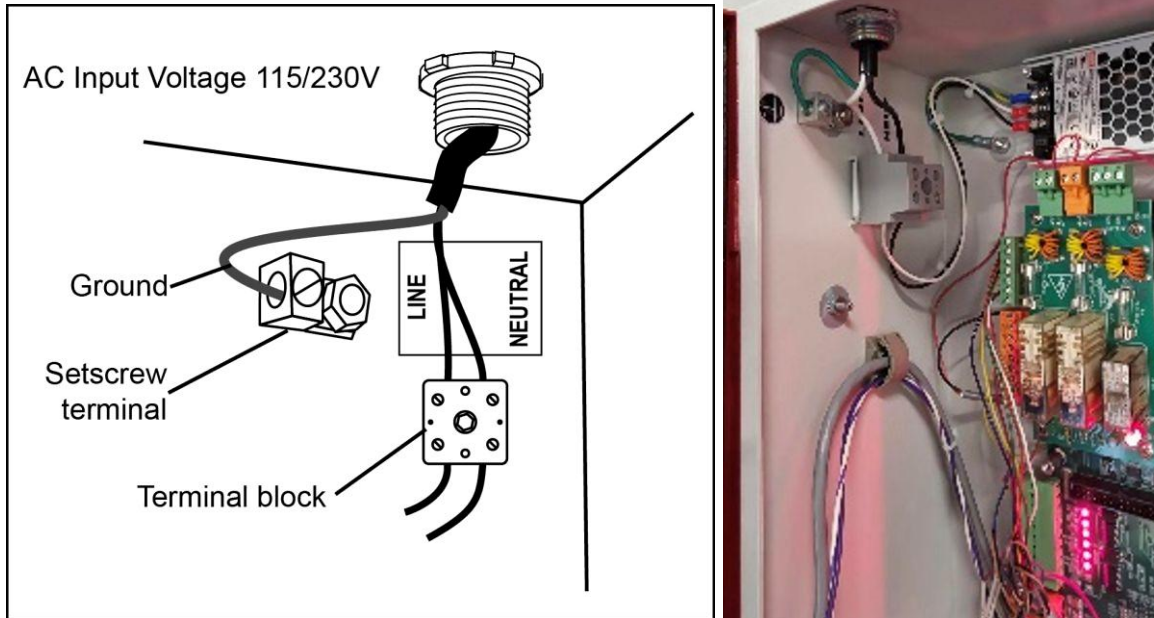

Figure 2-5. AC Input Wiring Connections
Bring the wiring connections for AC power to a convenient point so that you can connect them to the power terminal block at the top left of the enclosure (see Figure 2-5). No. 16 wire (No. 14, if local codes require it) is recommended for these circuits with a minimum 75° C temperature rating.
1. Locate the power supply input terminal block on the back wall at the top left of the enclosure, as shown in Figure 2-5.
4. Connect the ground wire to the set screw terminal on the left wall of the enclosure, referring to Figure 2-5 and to Figure 13 (Ross Serpar DSV), Figure 14 (Herion DSV), or Figure 17 (Ross DM2 DSV) at the end of the manual.